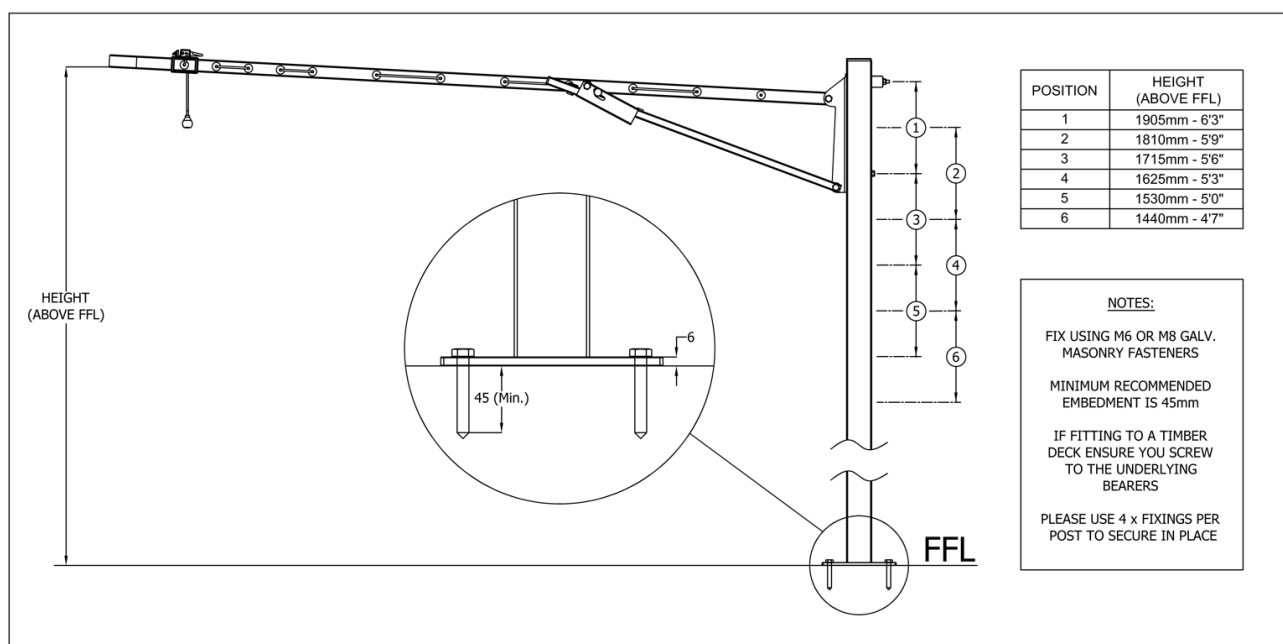

Fig 9. Installation of Plated Post GMK.
- Install the plated GMK as per the below image (Fig 9) at 2,400mm centres.